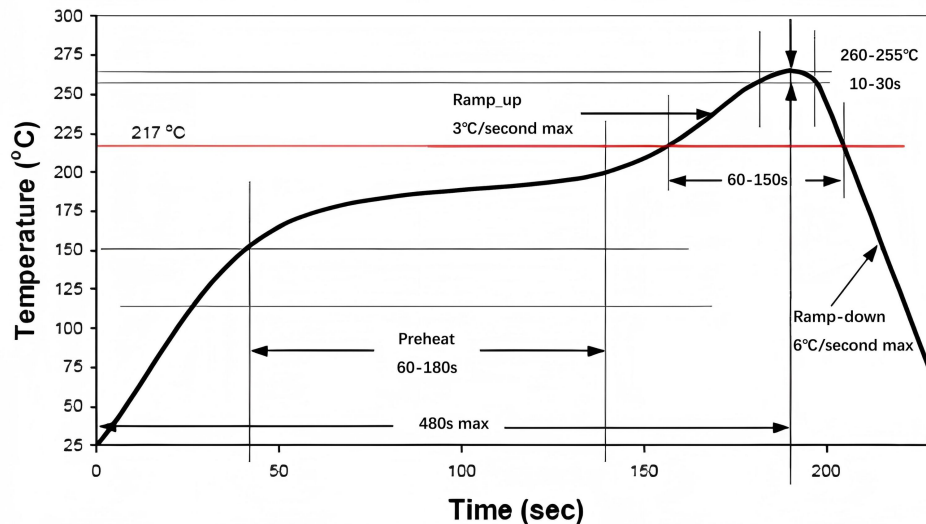

Fig.3 Reflow soldering temperature setting conditions
(1) Manual welding
(2) DIP soldering (DIP terminal type)
(3) Reflow soldering (SMD terminal type)
- The recommended reflow oven temperature setting conditions are shown in Figure 3.